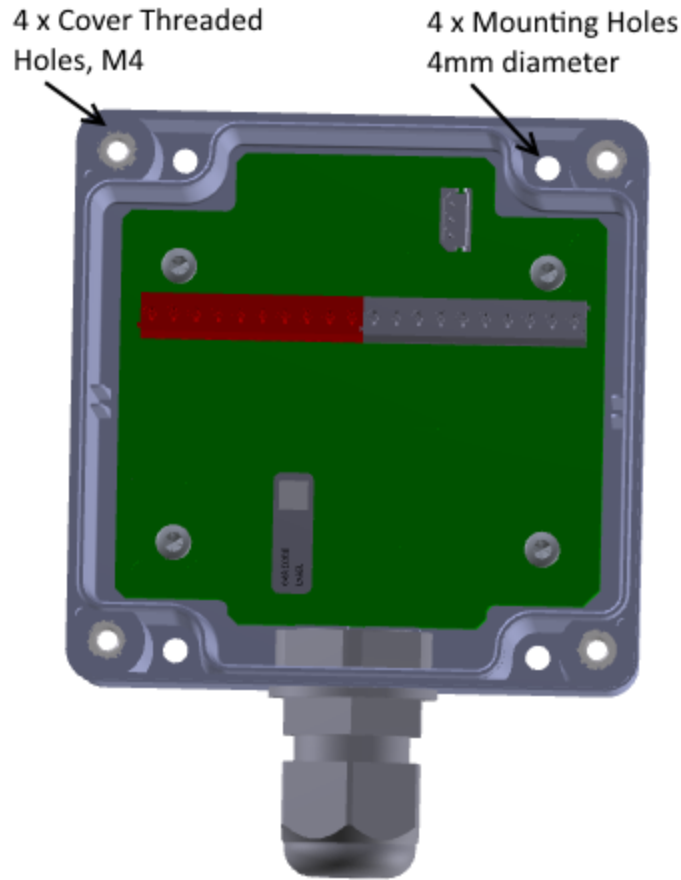

Figure 2-1: Mounting Holes and Threaded Cover Holes
When the cover is removed, four (4) mounting holes are exposed (see Figure 2-1). These mounting holes can be used to screw the enclosure to a solid surface. The recommended mounting screw size is M3 or #6. Mounting screws are not provided with the unit.